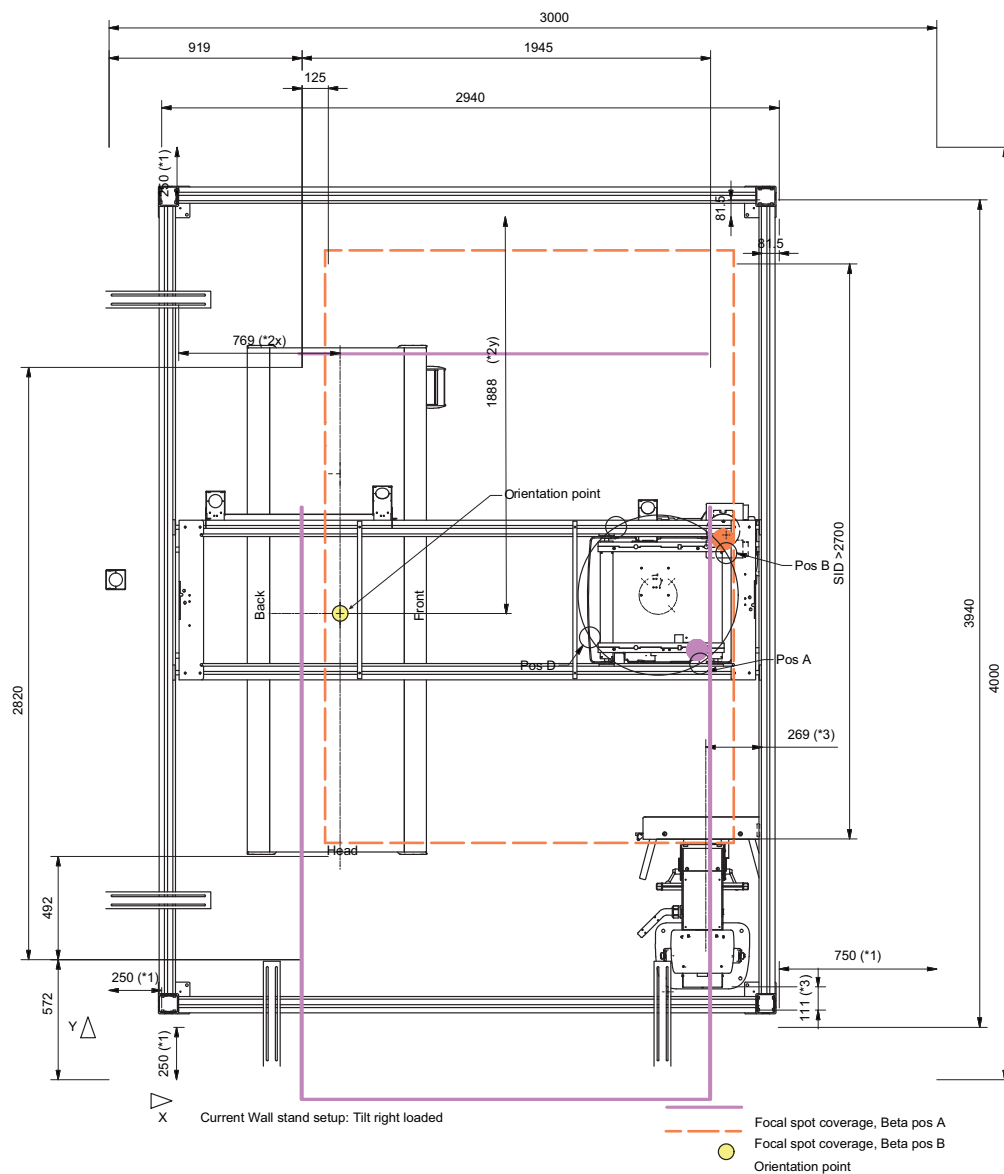

Figure 5-7
- The traverse cable outlet **(*6)** shall always be placed as suggested in *Figure 5-7* to minimize obstructions of the cable conduits.